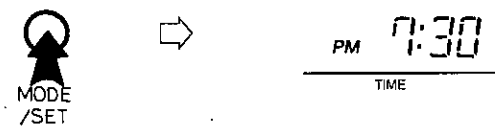

Fig. 18
4. Press the MODE/SET switch a second time. The seconds will be set to "00" and the clock will start. (Fig.18)